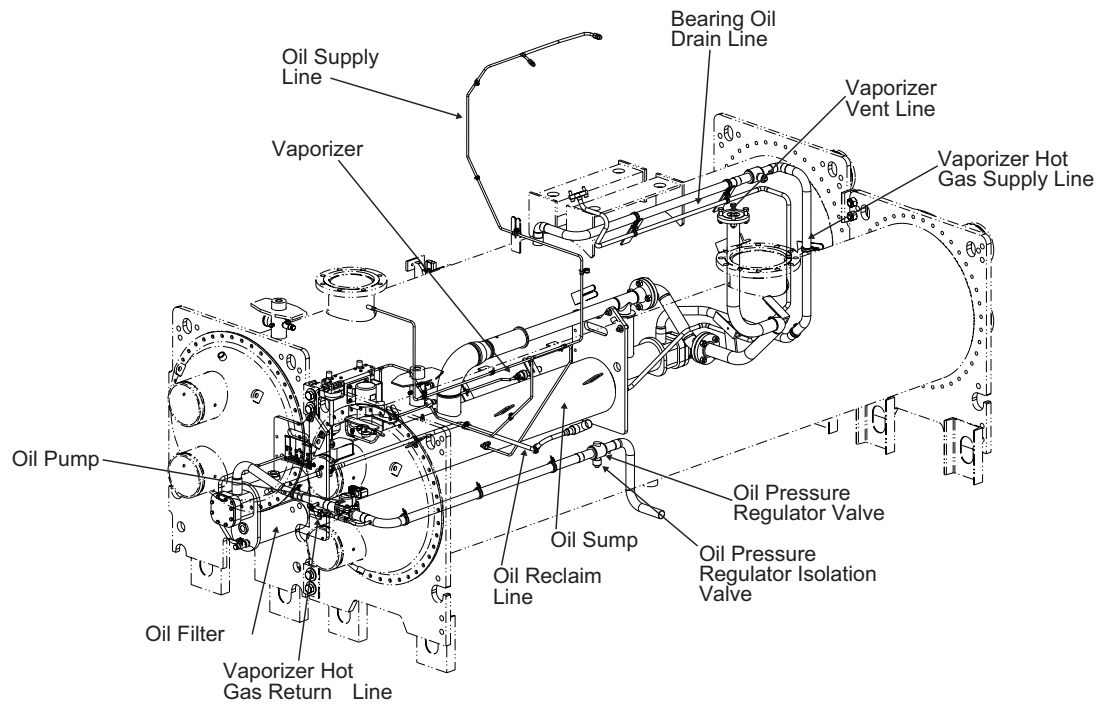

Fig. 32 — Oil Reclaim Piping (Unit with R Compressor Shown)
2. Cut the vaporizer hot gas return line (Fig. 32).
3. Cut the bearing oil drain line near the oil sump (Fig. 32).
4. Unbolt the vaporizer vent line flange shown in Fig. 32. (Cut for P compressor.)
5. Cut the oil supply line as shown in Fig. 32.
6. Cut the oil reclaim line as shown in Fig. 32.